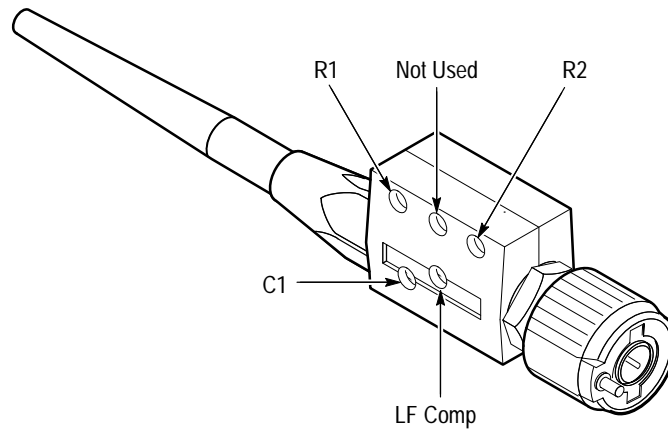

Figure 5–9: Locations of Probe Adjustments
- Set the high-amplitude output of the generator for 60 to 100 V *at the input to the pulse generator head* (see Figure 5–8).